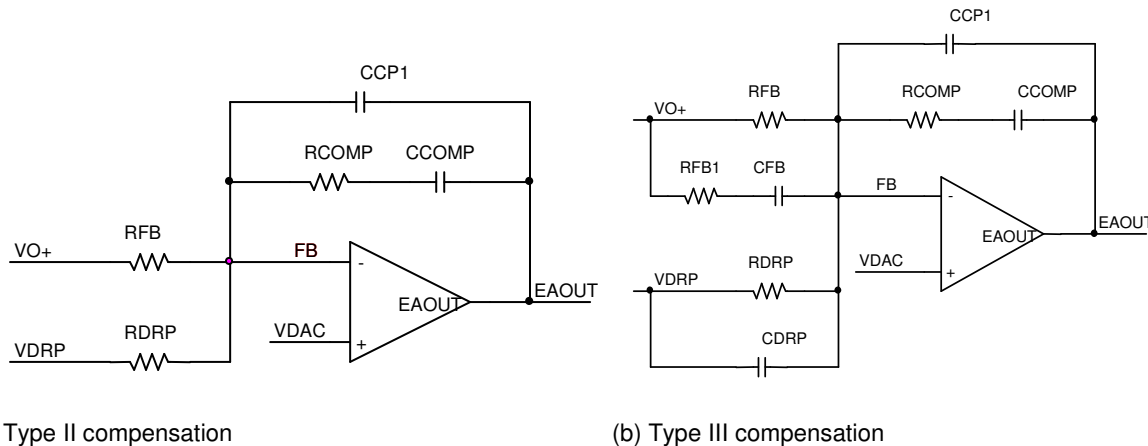

Figure11 . Voltage loop compensation network
Resistors RFB and RDRP are chosen according to Equations (9) and (10), and the selection of compensation types depends on the capacitors used. For the applications using Electrolytic, Polymer or AL-Polymer capacitors, type II compensation shown in Figure 11 (a) is usually enough. While for the applications with only low ESR ceramic capacitors, type III compensation shown in Figure 11 (b) is preferred.